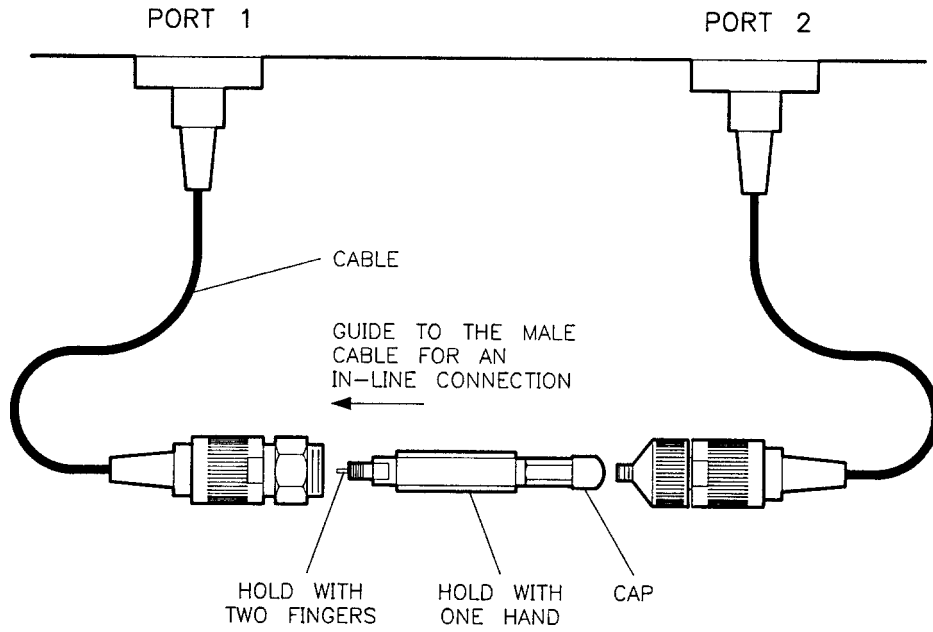

Figure 4-8. Aligning the Center Conductor
4. Hold the airline and center conductor (see Figure 4-8), and bring the outer and center conductor to the cable connector. Mate the end of the airline center conductor with the center conductor of the cable connector.